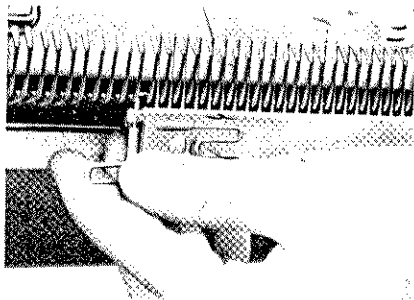

Fig. 50
Carefully unhook the comb from the pegs by turning the secure pin handle A of the cast-on comb hanger B and let the cast-on comb hang in the loops of wool. (See Fig. 50, 51)
3. Place hooks between pegs of needle bed as far up as possible. (See Fig. 50)